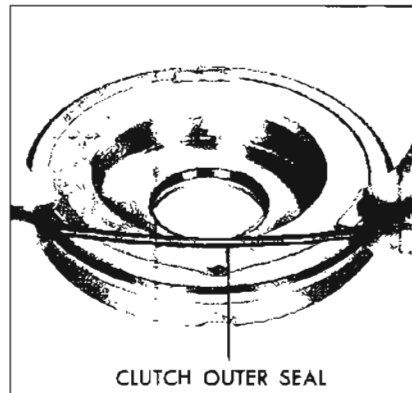

Figure 5-631
8. Remove the outer seal from the piston. See Figure 5-631.